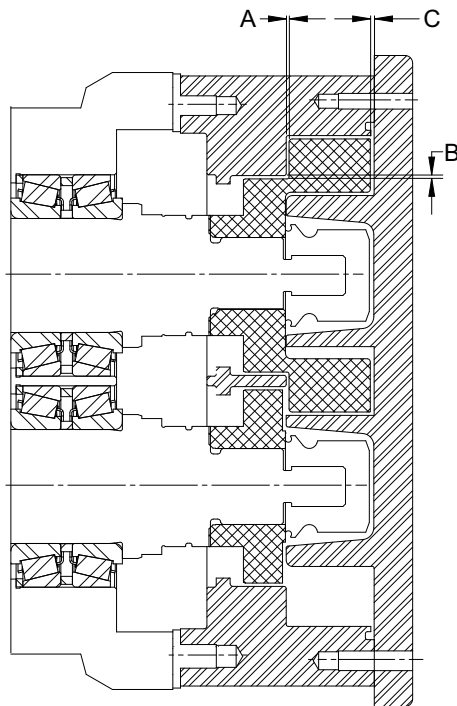
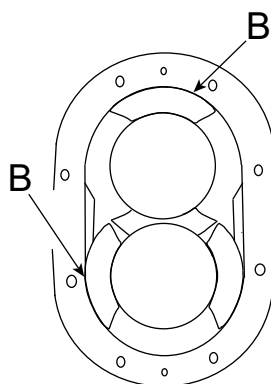

Figure 285 - Measure Clearance
Figure 286 - Measure Clearance
9. Measure the rotor backface clearance (Figure 285, item A) through the port or from the front. The backface clearance for both rotors must be the same to prevent rotor crossover contact and must be ± 0.0005 " of the value found in Table 22, "Rotor Clearances," on page 122.
10. Check the rotor front face clearance (Figure 285, item C).
11. Check the rotor to body clearance (Figure 285 and Figure 286, item B).